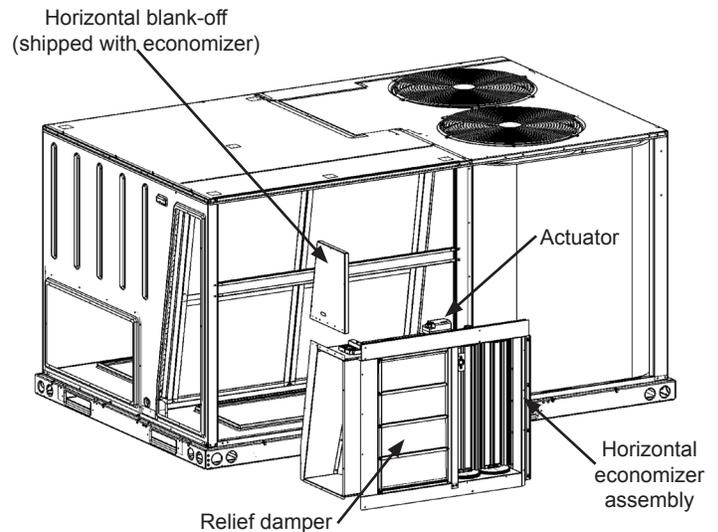
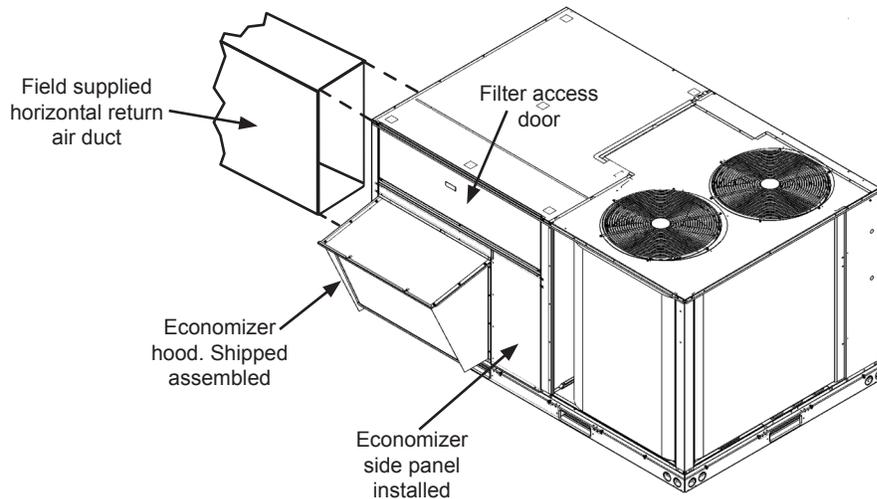

Figure 4 - Economizer Installation
Figure 6 - Installed Economizer
4. Install damper assembly into unit where return chamber panel was. Economizer will sit inside of unit, and will rest on base rail. (See Fig. 4.)
5. Screw left side flange on economizer to HVAC unit using provided (4) #10-14 x 3/4" screws with washer.
6. Align the holes in the base flange of the economizer into the holes in the base rail of the HVAC unit. Secure in place using (2) #10-16 x 5/8" screws.
8. Economizer hood is shipped assembled. Install over economizer and screw in place on both sides and top flanges. See Fig 6.
9. Install field supplied horizontal return duct per unit instructions. Caulk or gasket seam to ensure water tight seal. See Fig. 6.